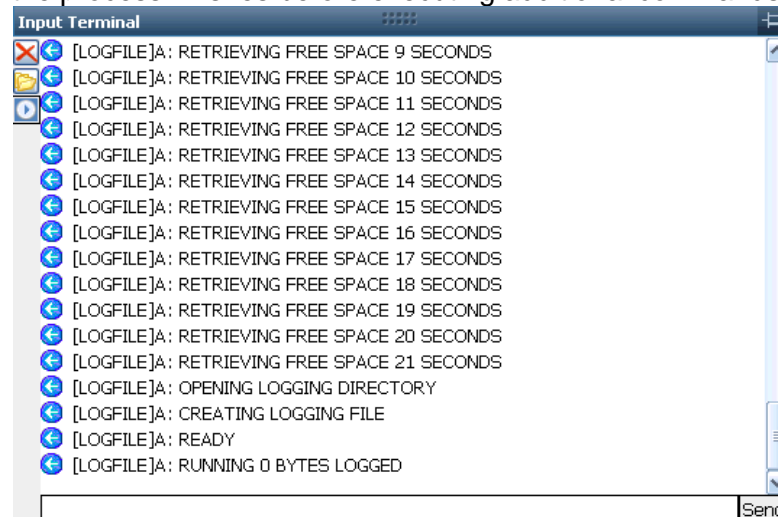

Figure 7: Input Terminal – Creating Logging File
5. In the *Input Terminal* window, type the command `[LOGFILE]A:,start`, where “A:” is the internal memory. The system will retrieve the available free space for logging data and issue a READY message (see Figure 7). (Refer to the `[LOGFILE]` command in this manual for detailed instructions, including “Essential Notes”).